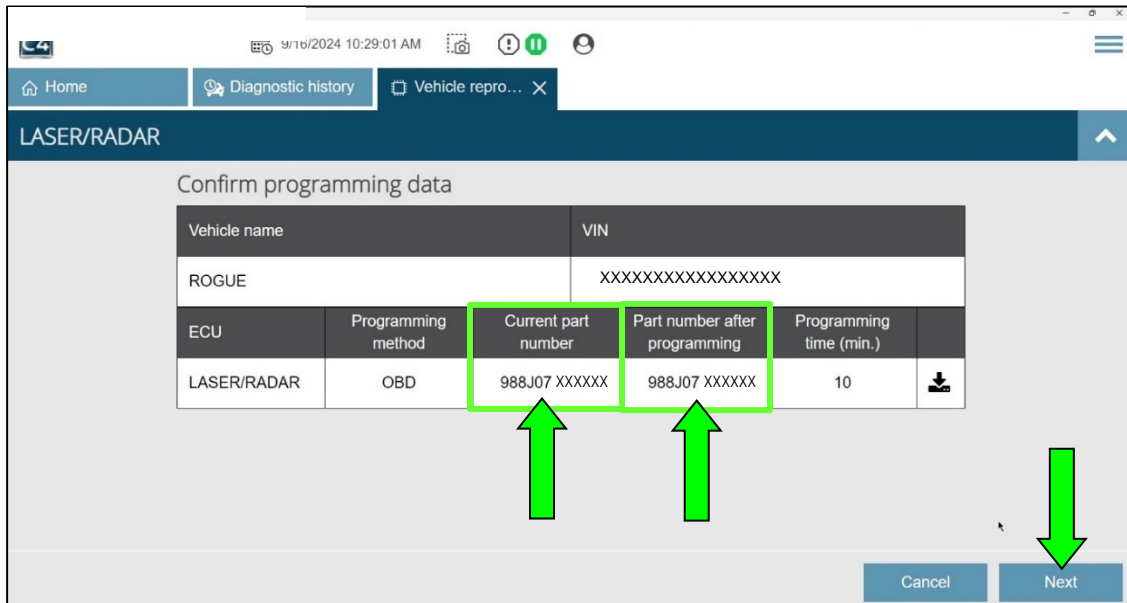

Figure 9
22. Confirm programming data in Figure 9 as follows: